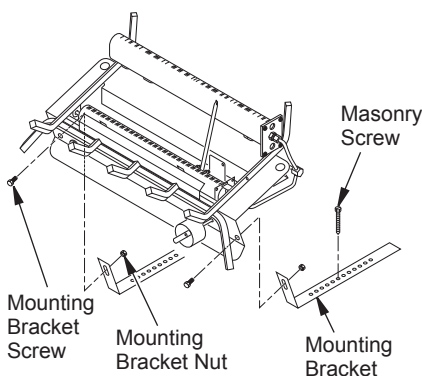
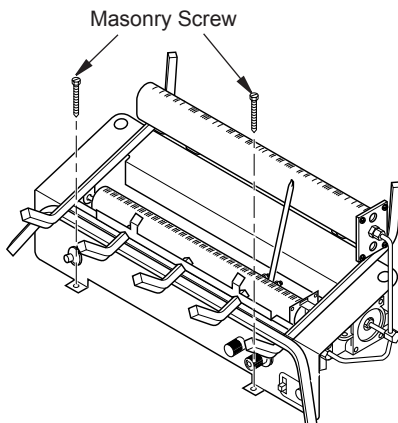

Figure 13 - Attaching Heater to Fireplace Floor (Variable Manually-Controlled and Thermostatically-Controlled Models Only)
Figure 14 - Attaching Base to Fireplace Floor (Remote-Ready Models Only)
2. Locate mounting brackets, bolts, and nuts in hardware package (Variable Manually-Controlled and Thermostatically-Controlled Models Only). Attach mounting brackets to heater base (see Figure 13). Attach nuts finger tight.
4. For Variable Manually-Controlled and Thermostatically-Controlled Models mark screw locations through holes in mounting brackets (see Figure 13). For Remote-Ready Models mark screw locations through holes in front panel of base (see Figure 14). If installing in a brick-bottom fireplace, mark screw locations in mortar joint of bricks.
8. For Variable Manually-Controlled and Thermostatically-Controlled Models attach mounting brackets to fireplace floor using masonry screws provided in hardware package (see Figure 13). Reattach heater base to mounting brackets (see Figure 13). Tighten nuts firmly.
9. For Remote-Ready Models attach base, through holes in front panel of base, to fireplace floor using masonry screws provided in hardware package (see Figure 14).